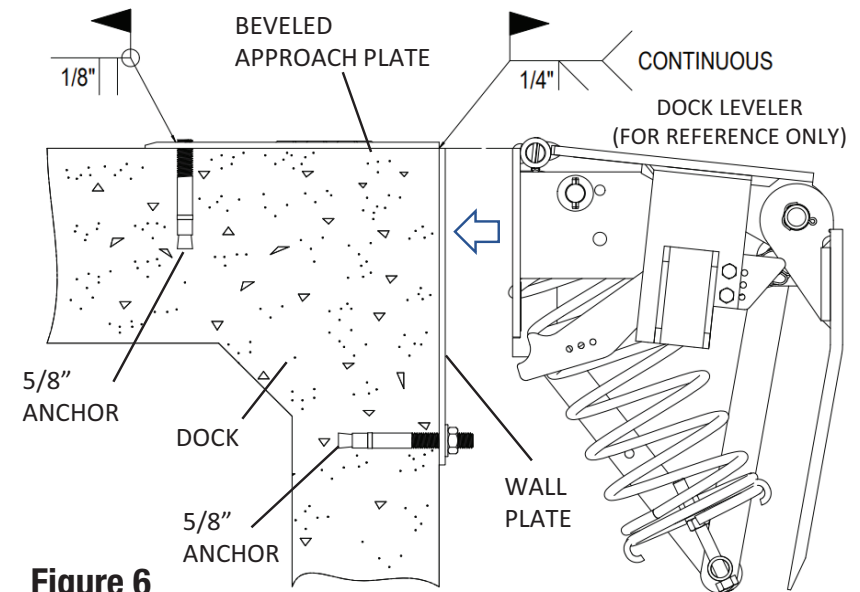

Figure 6
4. If beveled approach plate is used, skip to step 9. (See **Figure 6**)